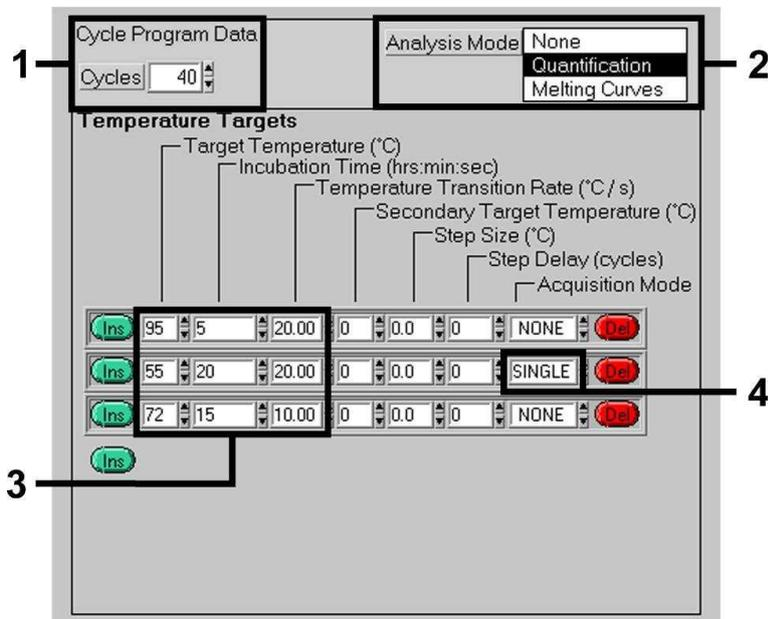

Fig. 5: Amplification of the DNA.
- C. Amplification of the DNA Fig. 5